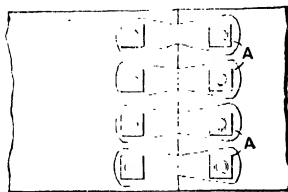
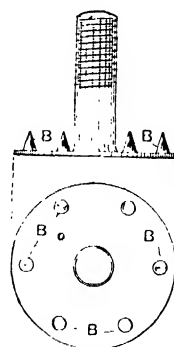

Fig. 60.—Canvas Belt connected with Jackson's Fasteners.
Fig. 61.—Jackson's Fastener for Machine Belts.
**Machine Belt, Joining.**—The following is a recipe for a cement or glue for splicing leather millbands. (1) Dissolve guttapercha in bisulphide of carbon until it is of the thickness of treacle. The parts to be joined must first be well shaved down and then a small quantity of the cement poured on; spread it evenly over, then warm the parts for about half a minute, place them together quickly, and press hard. The cement should be kept in a corked bottle in a cool place. Other cements are:—(2) Stir half a pint of good hot glue with a tablespoonful of glycerine and half a teaspoonful of turpentine. (3) Melt together in an old iron saucepan half a pound of guttapercha, 1 oz. of pitch, 1 oz. of shellac, and 1 oz. of sweet oil. Use hot. (4) Dissolve gelatine
in acetic acid. (5) Add as much tannin to glue as will make it ropy. (6) Melt together guttapercha, 20; pitch, 2; shellac, 1; and linseed oil, 2 parts. (7) Digest guttapercha 3, and caoutchouc 1, in 4 parts of carbon bisulphide. Belt joints should not depend entirely on the cement, but should be stitched as well. Take the case of a canvas belt which is to be both cemented and stitched. To piece such belting properly, it would be necessary to cut the stitches in order that the layers of canvas may be placed in proper order, one over the other. A cement may be made according to the No. 6 recipe above. Paint the parts to be joined while the cement is hot, join as above, and weight down until the cement is properly set; then remove the weight and stitch the splice or joint with strong twine. As the above would be a very tedious method of joining machine belts, Jackson's patent fasteners may be recommended for the purpose. These are obtainable from most machine-belt makers. The method of joining the canvas is very simple, and is quickly accomplished. The ends of the belt are simply butted together, as indicated in Fig. 60. The fasteners A are secured by means of small bolts (see Fig. 61) passed through holes in the plates, and corresponding holes are punched in the belt. Nuts are then screwed down firmly on the plates, as shown. Suitable spanners
are supplied with the fasteners, for turning the nuts. The points B of the fasteners (see Fig. 61) catch into the under side of the belt as the nuts are being tightened. This method of joining machine belts is